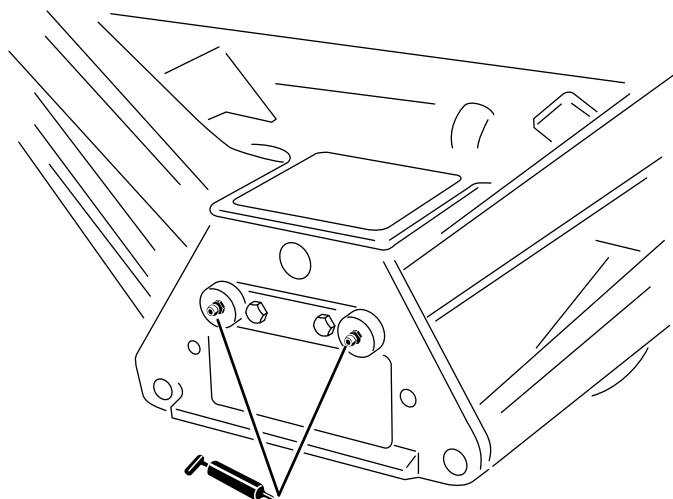

Figure 25
- Bras de relevage (5) (Figure 25).